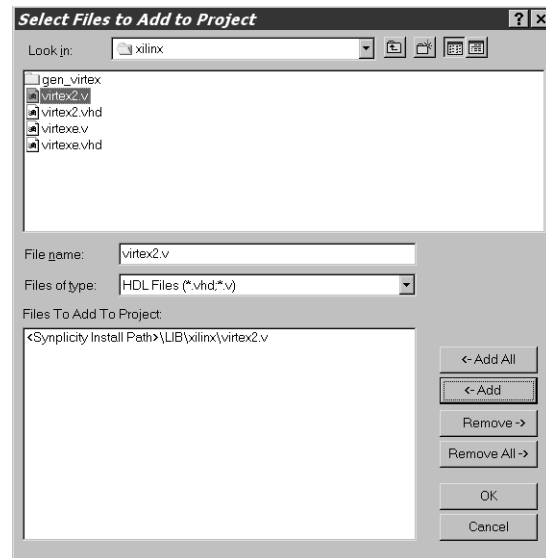

Figure 5-3: Files to Add (Virtex Library)
- Navigate to the virtex.v file (Figure 5-3); then click Add to move this source file into the Files To Add list.